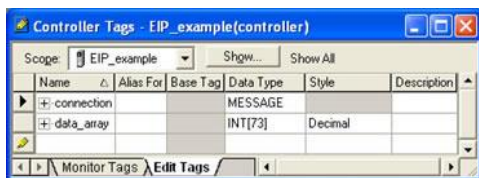

Figure 44: Create New Tags
- The "Controller Tags" window appears. Refer to Figure 44.